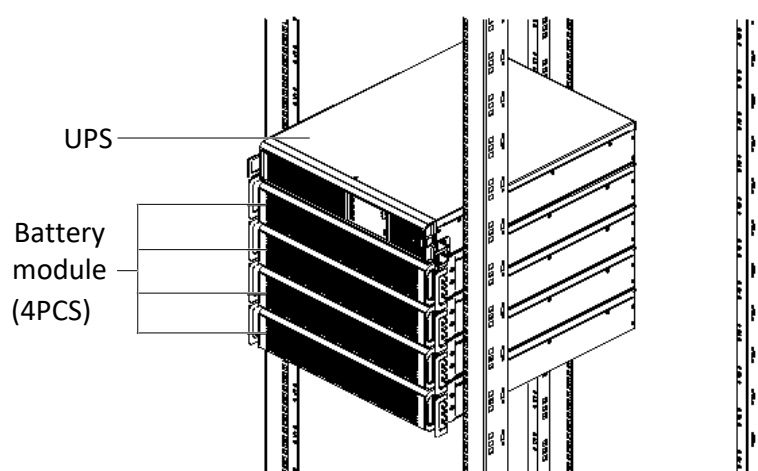

Figure 2-13 Installation of UPS with battery modules
1. The battery module installation method is exactly the same as the UPS installation method. Repeat the above installation steps, install the battery modules and UPS to the rack one by one (4 battery modules are installed here). After all the installation is completed, as shown in Figure 2-13.
Repeat the preceding procedures to install and fix the four battery modules and a UPS in the rack one by one, as shown in Figure 2-13.